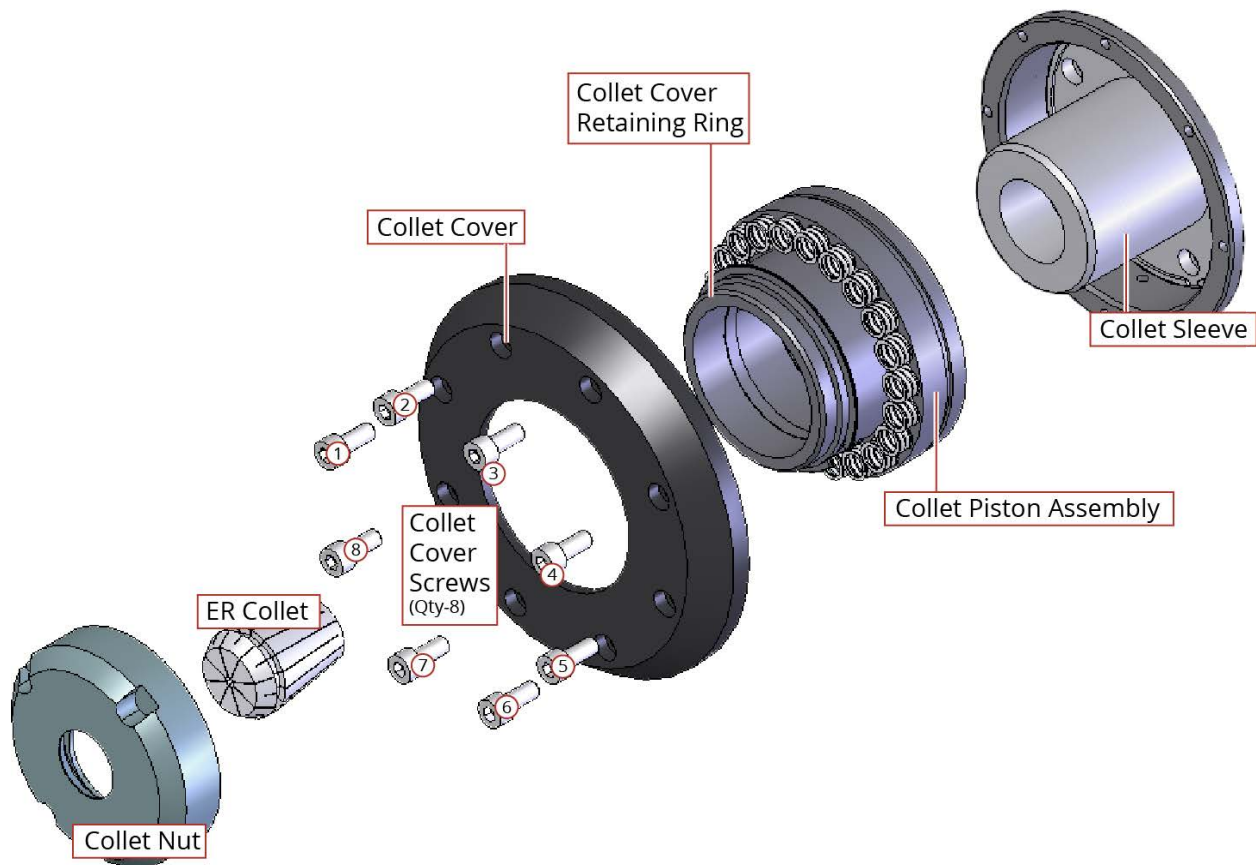

Figure 4-1: Piston Seal Change Exploded View
The seals on the collet piston should be replaced if a leak or excess wear becomes apparent. Figure 4-1 shows an exploded view of the assembly and includes all parts involved in the process.
Step 5: Refer to Figure 4-1. Remove every other collet cover screw (i.e., screws 1, 3, 5, and 7). All screws cannot be removed at once, as the cap is under tension from several springs and will be damaged or cause bodily harm if removed without caution.